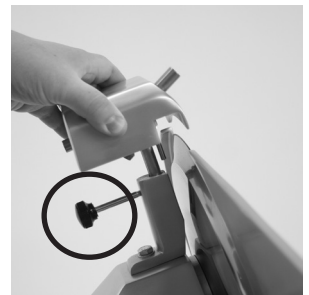

Figure 14-1
4. Loosen the sharpener release knob by turning it counterclockwise several times (Fig. 14-1).
5. Lift the sharpener cover up (Fig. 14-1), rotate it clockwise and lower it into position with the knife fitting between the two stones (Fig. 14-2).
6. Tighten the sharpener release knob (Fig. 14-1) to secure the sharpener.